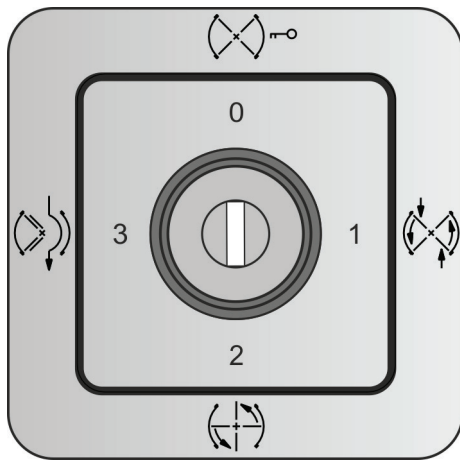

Fig. 54 Program switch
1. Make sure that the program switch is turned to "Off" (Fig. 54).